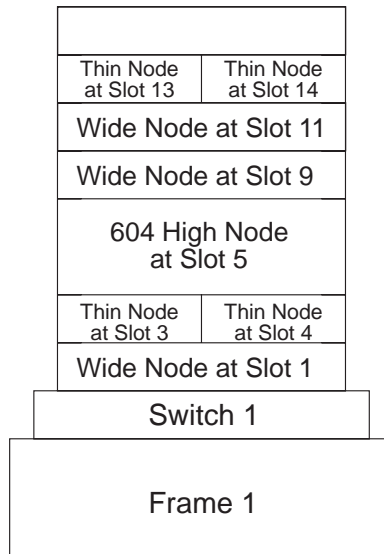

Figure 10. Node Slot Assignment
- A thin node occupies a single slot in a drawer and its slot number is the corresponding slot. (See thin nodes in Figure 10.)
- A wide node occupies two slots and its slot number is the odd-numbered slot. (See the wide nodes in Figure 10.)